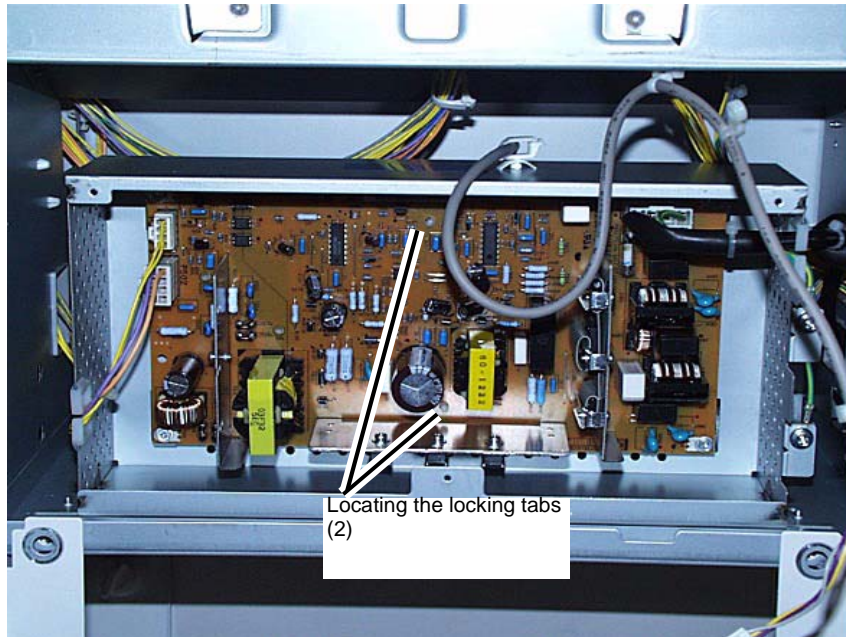
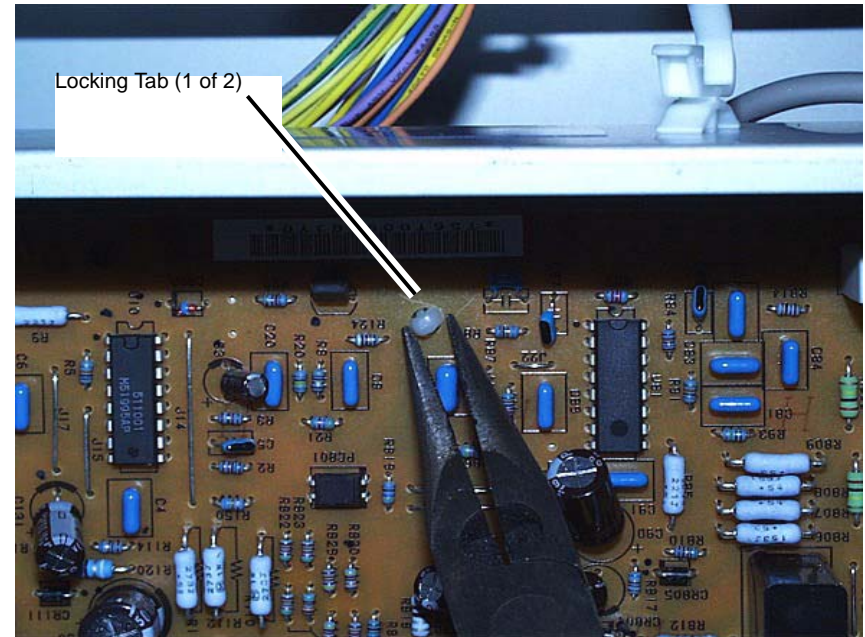

Figure 11 Locating the locking tabs
Figure 12 Releasing the locking tabs (2)
8. Pinch together the legs of the plastic PWB StandOffs to release the locking tabs (2). (Figure 11, Figure 12)